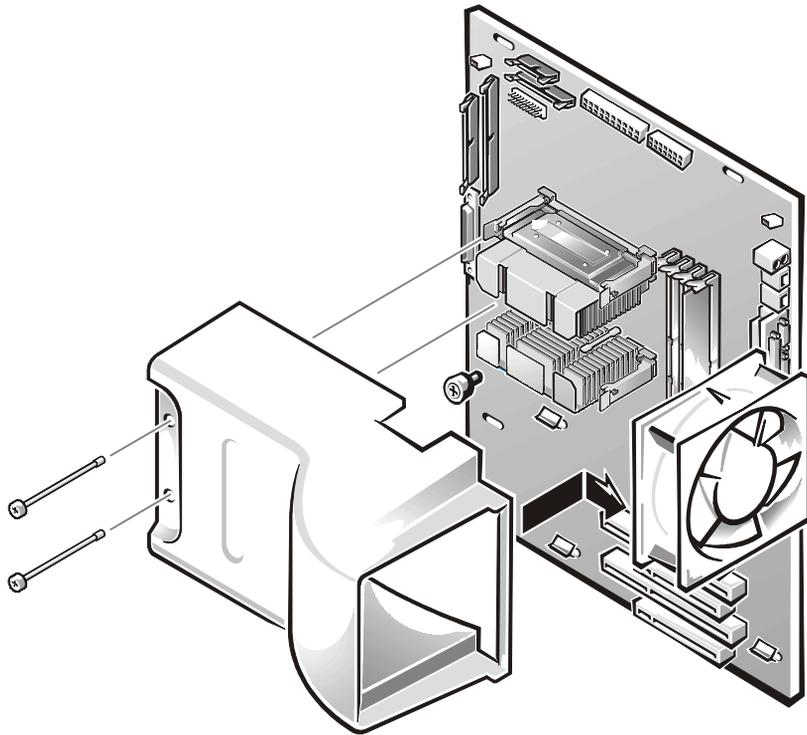

Figure 6. Installing the Cooling Shroud Assembly (PowerEdge 2300)
1. Carefully position the shroud into place with the square opening over the bulk-head fan and the top of the shroud's other end resting over the microprocessor's heat sink, as shown in Figure 6.
2. Secure two large thumbscrew retention screws (provided in the kit) through the shroud and into the threaded studs on the system board as shown in Figure 6.